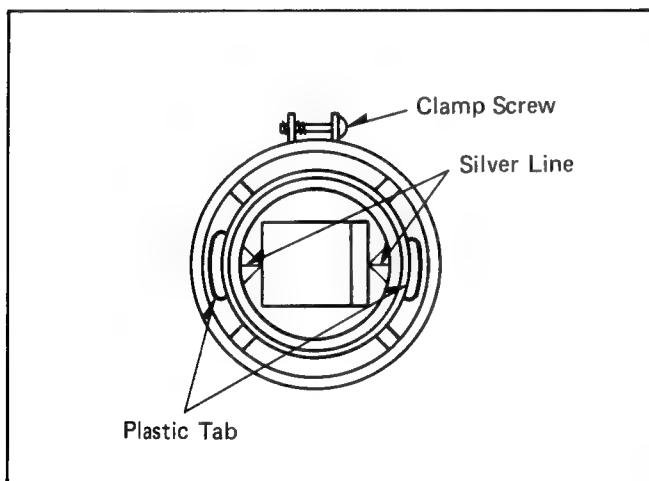

Fig. 10.
- 3-12. Line up the plastic tab on the D.Y assembly with the silver line on the face of the pick-up tube as shown in Fig. 10.